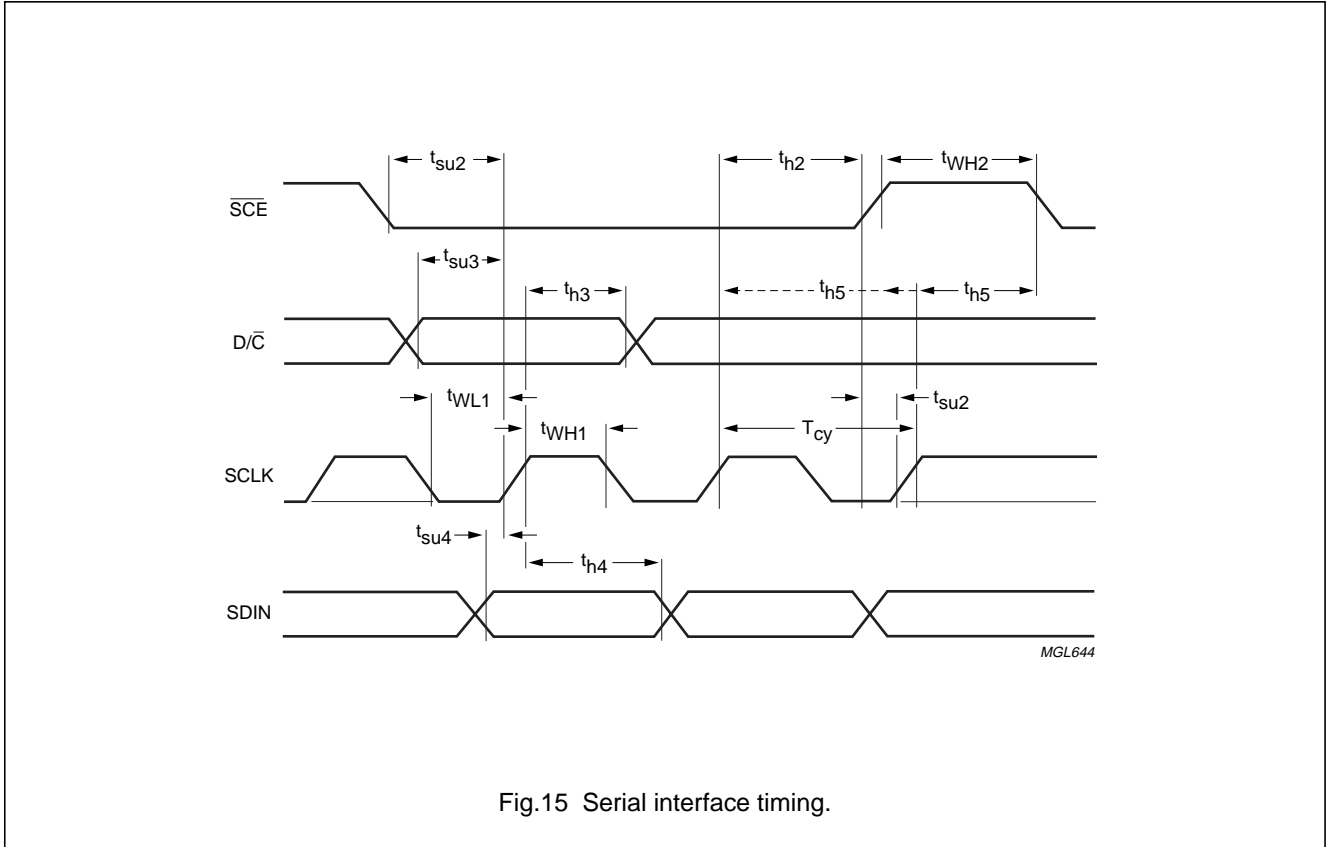

Fig.15 Serial interface timing.
- t_{h5} is the time from the previous SCLK positive edge (irrespective of the state of $\overline{\text{SCE}}$) to the negative edge of $\overline{\text{SCE}}$ (see Fig.15).